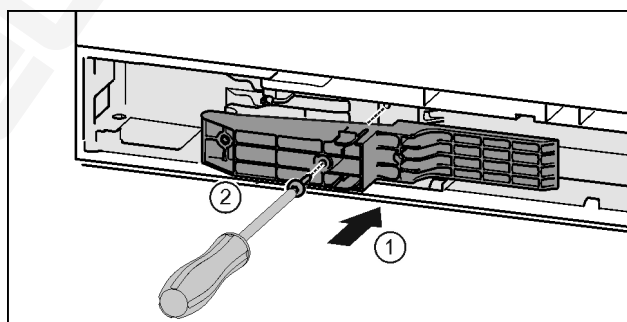

Fig. 43 \*
- Install the adapter on the handle side of the slot. Fig. 43 (1)\*
- Tighten the screws with the T15 screwdriver. Fig. 43 (2)\*